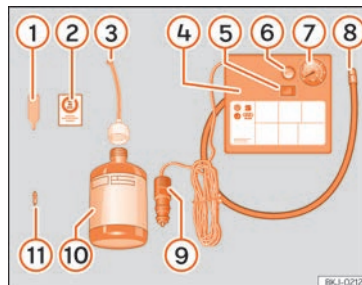

Fig. 31 Standard representation: anti-puncture kit contents.
» **Fig. 31:**
- Unscrew the tyre valve cap and insert. Use the »» Fig. 31 ① tool to remove the insert. Place it on a clean surface.
- Shake the tyre sealant bottle vigorously »» Fig. 31 ⑩.
- Screw the inflator tube »» Fig. 31 ③ into the sealant bottle. The bottle's seal will break automatically.
- Remove the lid from the filling tube »» Fig. 31 ③ and screw the open end of the tube into the tyre valve.
- Place the insert back into the tyre valve using the tool »» Fig. 31 ①.
- Screw the compressor tyre inflator tube »» Fig. 31 ⑧ into the tyre valve.
- Check that the air bleed screw is closed »» Fig. 31 ⑥.
- Insert the connector »» Fig. 31 ⑨ into the vehicle's 12-volt socket »» page 136.
- Turn the air compressor on with the ON/OFF switch »» Fig. 31 ⑤.
- Attach the sticker »» Fig. 31 ② to the instrument cluster, within the driver's visual field.
Screw the inflator tube >>> **Fig. 31 ⑤** again and check the pressure on the gauge **⑥**.